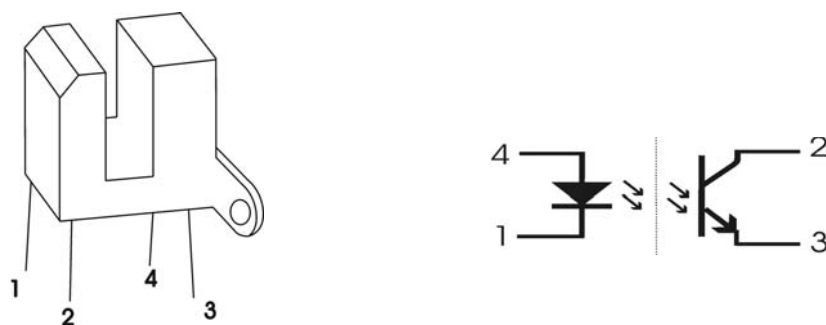

Fig.21 The external and elements diagram of the width sensor
8.7 The Counting-display Circuit Diagram (refer to Fig. 21)